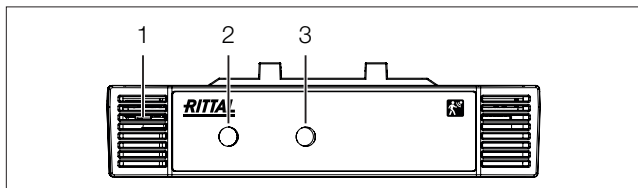
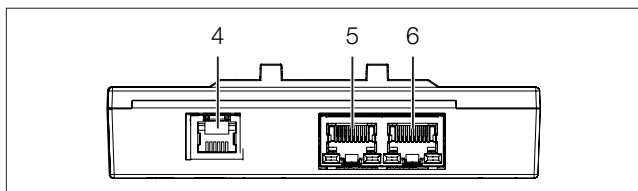

Fig. 13: Front of the access monitoring sensor
Fig. 14: Rear of the access monitoring sensor
A multi-LED for the status display is integrated into the front of the access monitoring sensor (fig. 13, item 1). Further LEDs are located at the rear on the CAN bus connection (fig. 14, item 5 and 6).